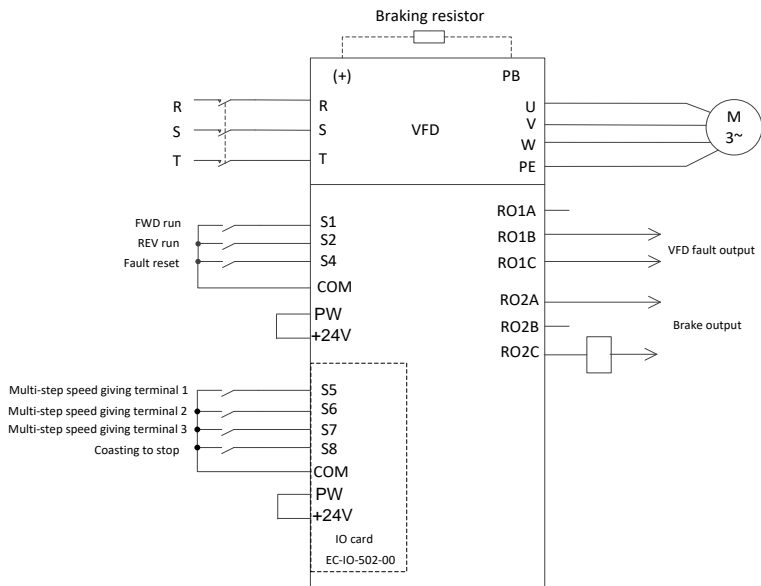

Figure 5-12 Wiring for horizontal moving
**Note:** If the wiring is performed according to Figure 5-12 Wiring for horizontal moving, most VFD parameters need no adjustment. If the onsite function terminals are inconsistent with the terminals shown in the figure, adjust the input and output terminal functions according to the actual wiring after selecting this application macro.